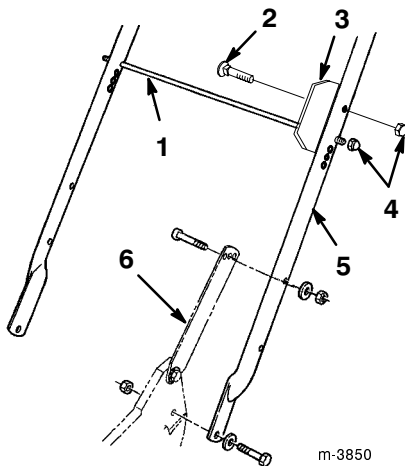

Figure 1
2. Secure the handle latches to the handle with two 5/16-18 x 1-1/2 in. (8 mm x 38 mm) cap screws, washers, and nylon insert locknuts (Fig. 1).
3. Slide the bag support rod through the bag aligning plate and into the second from the top mounting holes in the handle and secure each end with a cap locknut (Fig. 1).